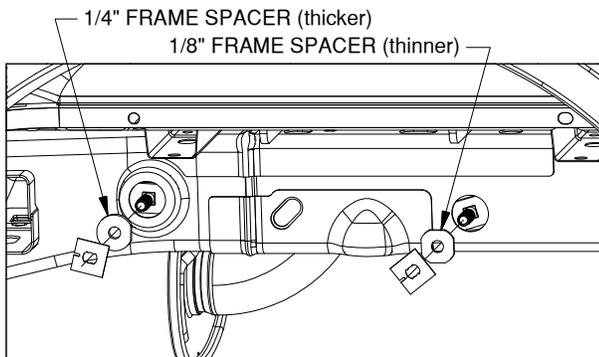

Figure C3: View of driver side wheel well.
2. **Install frame spacers.** Install a frame spacer into each hole. The 1/8" (thinner) frame spacer will install in the rear hole in the frame and the 1/4" (thicker) frame spacer will install in the forward hole. To prevent the carriage bolts from falling into the frame thread a 1/2" retainer onto each bolt until it is snug against the frame, see figure C3. Repeat steps 1 & 2 on the other side of the truck.